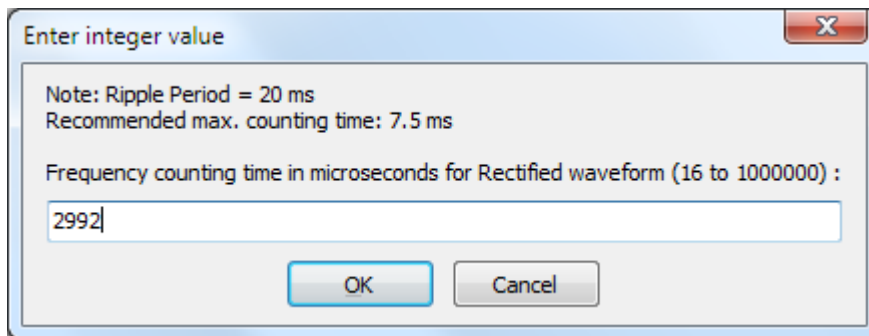

Figure 25. Entering counting time for Rectified sampling.
- If ripples are such that the power drops to zero, frequency counting time  $T_c$  should be shorter than a half of the ripple period. When entering  $T_c$ , via the **Tc** Standard toolbar button (Figure 15), the software informs about the ripple period and recommends a counting time not exceeding 75% of the ripple half-period (an example for 50-Hz ripple frequency is in Figure 25).